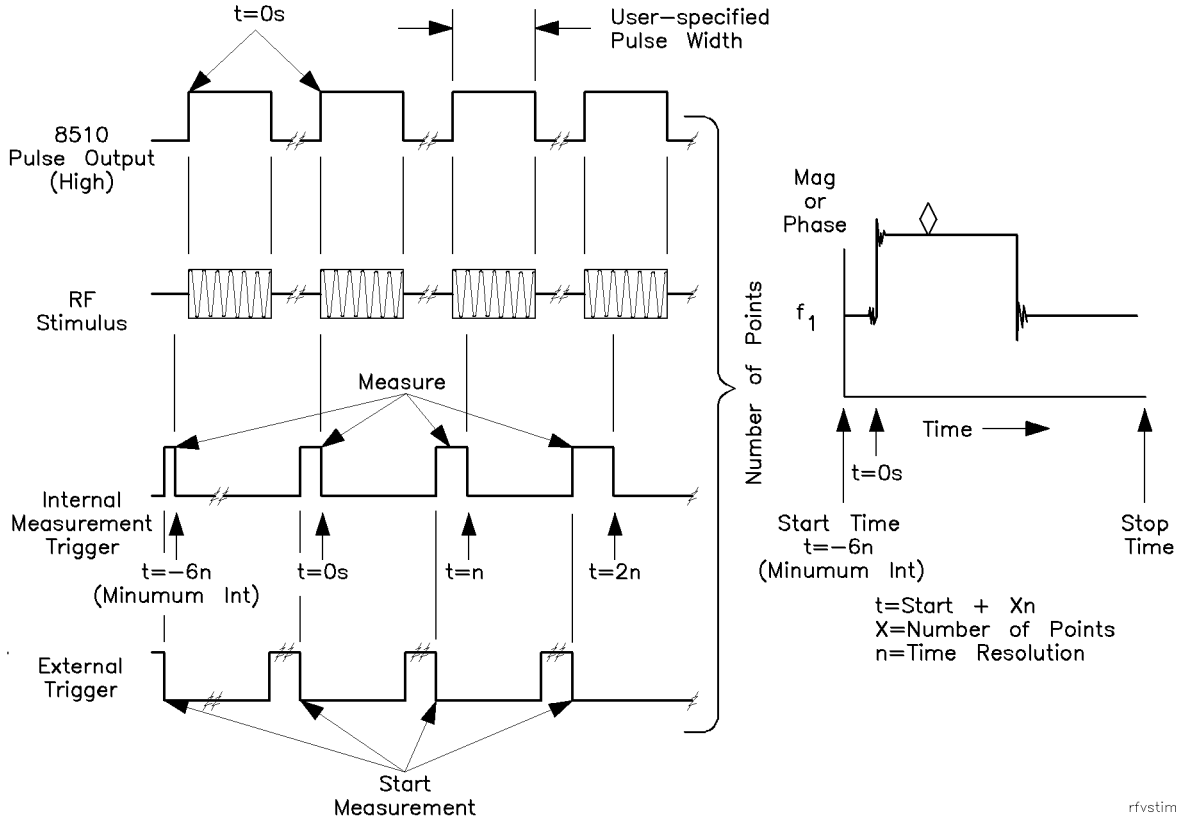

Figure 3-12.
- Pulse Profile Domain.** A repetitive sampling technique is used to make measurements in the pulse profile domain. Measurements are taken at a single frequency as determined by the start frequency setting. Data is reconstructed from samples taken from a series of pulses. For each pulse, a single point in the pulse is measured. A profile of the pulse is made by measuring the first pulse at the user-specified Start time, then increasing the measurement trigger delay by a certain time increment for each pulse until the specified number of points is measured. Refer to Figure 3-12 for an example of this process.